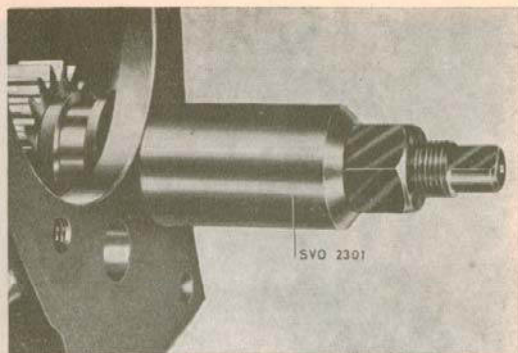

Fig. 3-18. Removing reverse shaft
2. Slacken the bolts for the transmission cover (35, illustration III-A) and lift off the cover. Remove the springs (56) and interlock balls (57) for the shift rails.
3. Remove the casing (13) over the shift rails. Slacken the shift fork bolts. Move the shift fork (37) back to 1st speed position. Drive out the pin slightly (it must not foul 1st speed gear wheel). Then move the shift fork forward sufficiently to allow the pin to pass in front of the gear wheel. Drive out the pin. Slide out the shift rails. When doing this hold against the shift forks so that they do not lie obliquely and distort the rails. Remove the shift forks.
4. Unscrew the bolts for the rear cover (17). Turn the cover so that it does not lock the shafts (2, 5) for the intermediate gear wheels and reverse gear wheel (4, 6). Drive out the intermediate gear wheel shaft. The shaft should be driven out to the rear. Let the wheel fall into the bottom of the transmission housing.
6. Unscrew the bolts and remove the cover (67) over the input shaft (68). Remove the sealing ring (66) from the cover with a screwdriver or similar.
7. Drive out the input shaft. If necessary remove the locking ring and press off the ball bearing (64) from the input shaft.
8. Take out the idler gear wheel. Pull out the shaft (5) (early prod.) for the reverse gear wheel (6) with puller SVO 2301, Fig. 3-18. Take out the reverse gear wheel and lever (8).